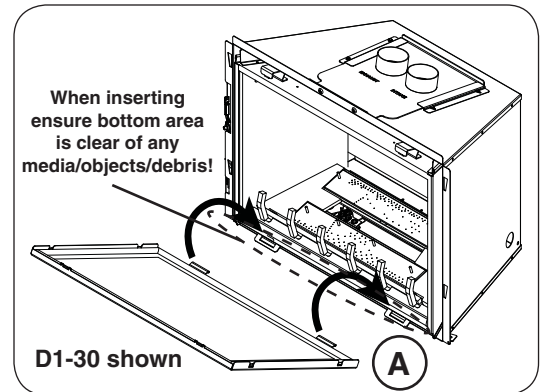

Fig. 35-1 Insert glass panel bottom
Important: When installing the glass panel, ensure that no media, objects, or debris exist along the bottom of the unit that may obstruct/damage the glass panel. See Fig. 35-1.
1. The bottom of the glass panel has two tabs. Insert the tabs into the two slots found on the bottom of the unit. See Fig. 35-1, "A".